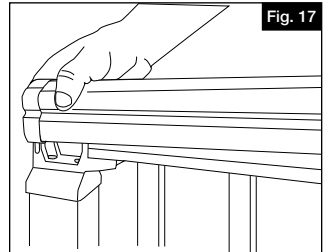
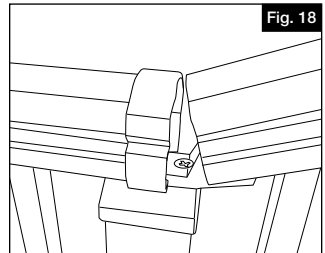

Fig. 17
Fig. 18
**12.** Starting at one end of your installation, fit your end cover onto the top rail and place down so that the end cover and top rail fit onto your post bracket and rail panel (Fig. 17). Dry fit your top rails in place moving from one post to the next. For corner applications, once one end of your corner is dry fit in place, you may have to angle your top rail down into the other side of the corner cover (Fig. 18). Working from one end of your installation to the other end, fit your top rails into place ensuring the top rail fits snugly into the bracket covers and onto the rail panels.